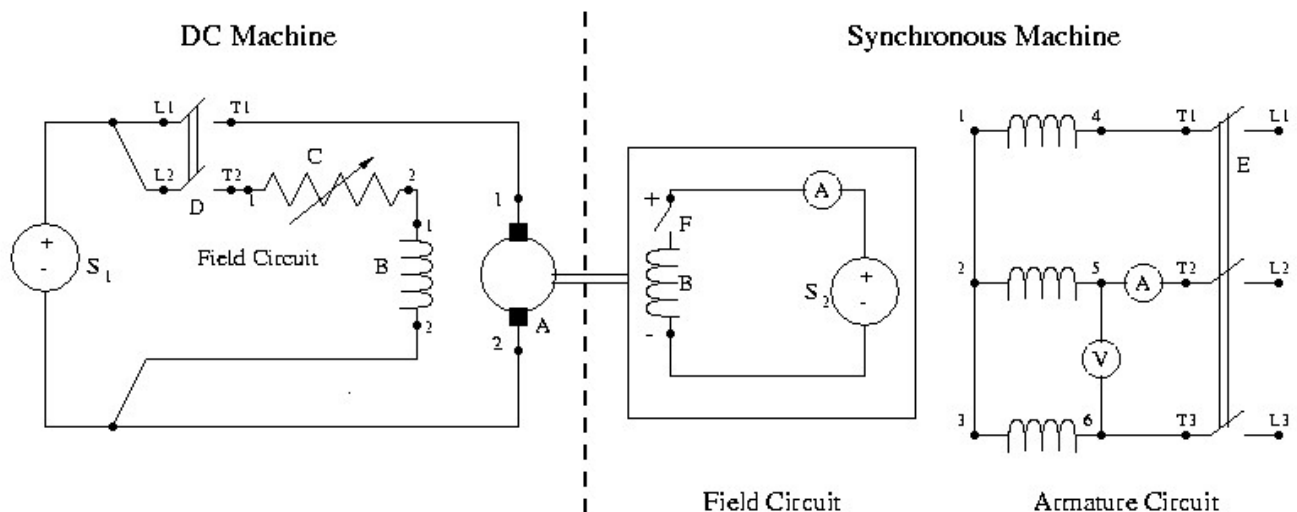

Figure 1
- 1) Connect the synchronous machine to operate as a 208 V (line-to-line), 3-phase, Y-connected synchronous generator as shown in Figure 1.
- 2) Connect the DC machine to operate as a shunt motor as shown in Fig. 1.
- 3) Adjust the rheostat (C) of the DC motor to be at its maximum value (i.e., turn it **counterclockwise**). Set switch **D** to the **OFF** position. Set switch **E** to the **OFF** position, set **F** to the '**Ind. Start**' position (left).
- 5) Start the DC motor by switching '**D**' to the **on** position. Gradually increase the S1 voltage, eventually reaching 125V (DC). Then adjust the speed to 1800 rpm by varying the rheostat 'C'. Keep the speed constant until step 8.